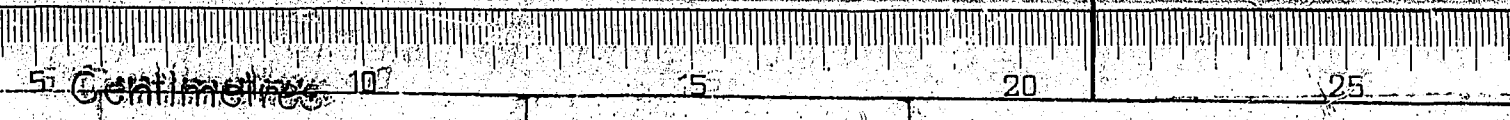

FIG. 4. DIRECT CABLING (TYPICAL) FROM 60 BANK PENULTIMATE GROUP TO 30 BANK F.S. GROUP
- 2.10. WHEN THERE ARE ONLY 6 SHELVES IN THE PENULTIMATE SELECTOR GROUP THE OUTGOING CABLES TO THE 'B' SHELF FINAL SELECTORS OF A 30-BANK FINAL SELECTOR GROUP SHALL BE TERMINATED ON THE BANK MULTIPLE TERMINAL STRIPS FOR SHELVES E-F INSTEAD OF SHELVES G-H. IN ADDITION AS INDICATED FOR A TYPICAL GROUP AS IN FIG. 4., THE SHELF TIE CABLE WIRES SHALL BE CUT OR RETAINED AS NECESSARY TO PROVIDE THE MOST SUITABLE GRADING ARRANGEMENT WITH ACCESS FROM 3 GROUPS.
- 5.7. When there are only 6 shelves in the penultimate selector group, the outgoing jumpers to the 'B' shelf final selectors of a 30 bank final selector group shall terminate on the bank mult. terms. of the outlets for shelves 'E-F', in addition the strapping of the early choice outlets shall be cut or retained as necessary to provide the most suitable grading arrangement with access from 3 groups (reference fig. 4. GBW14850).